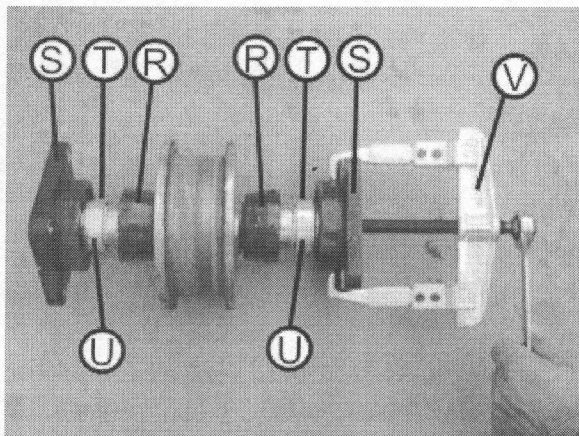

Fig. 015
9. Loosen safety screws (T) and open clamping rings (U) (Fig. 015)
10. Extract flange bearing (S) with extractor (V) (Fig. 015).